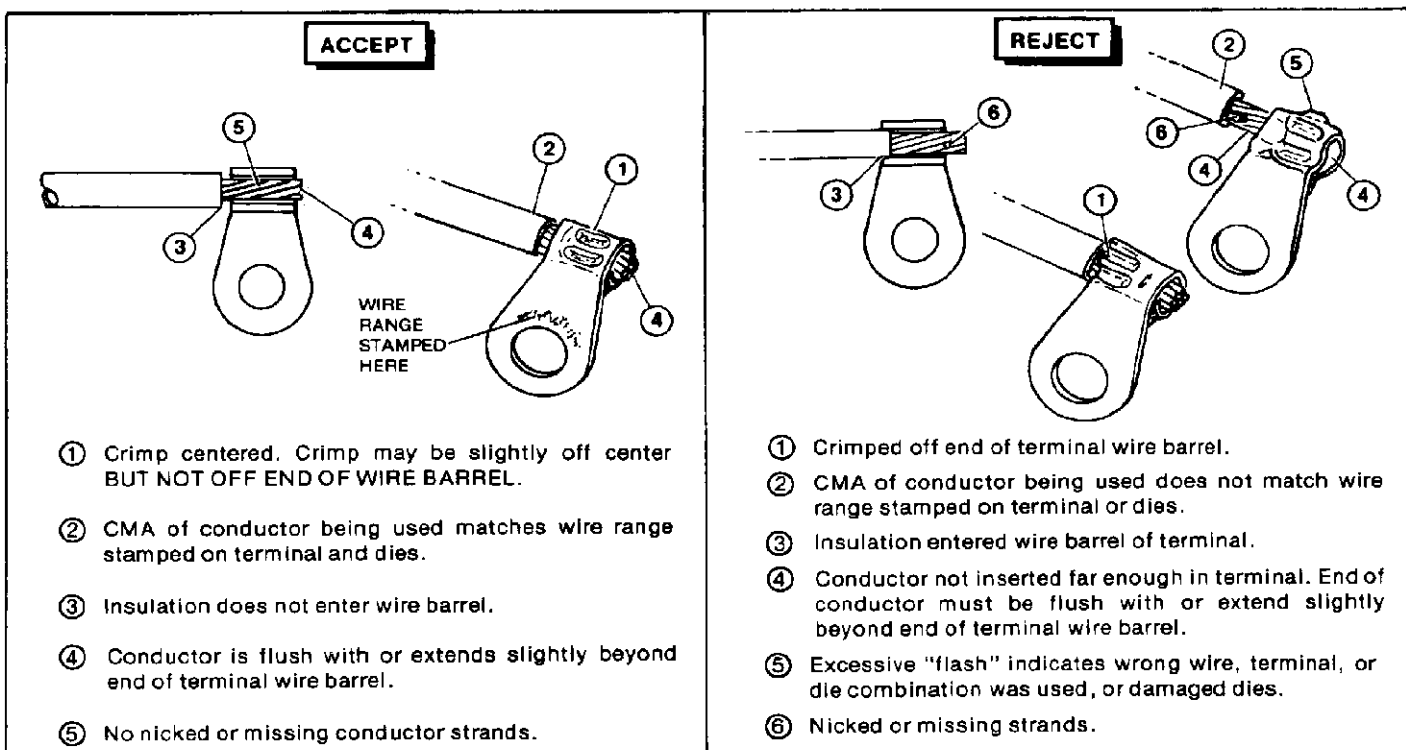

Figure 4
- Refer to Section 3 and Figure 4 for crimp inspection.
Inspect crimped terminals by checking the features described in Figure 4.